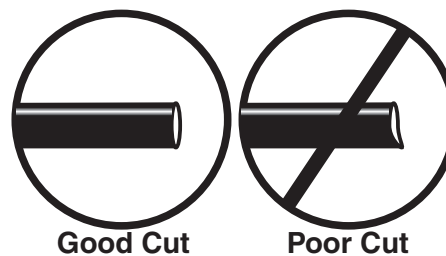

fig. 19
WHEN CUTTING OR TRIMMING THE AIR LINE, USE A HOSE CUTTER, A RAZOR BLADE, OR A SHARP KNIFE. A CLEAN, SQUARE CUT WILL ENSURE AGAINST LEAKS. DO NOT USE WIRE CUTTERS OR SCISSORS TO CUT THE AIR LINE. THESE TOOLS MAY FLATTEN OR CRIMP THE AIR LINE CAUSING IT TO LEAK AROUND THE O-RING SEAL INSIDE THE ELBOW FITTING (FIG. 19).
- a. Check the air line connection by deflating the spring and removing the line by pulling the collar against the fitting and pulling firmly on the air line. Trim 1" off the end of the air line. Be sure the cut is clean and square (see fig. 19). Reinsert the air line into the push-to-connect fitting.